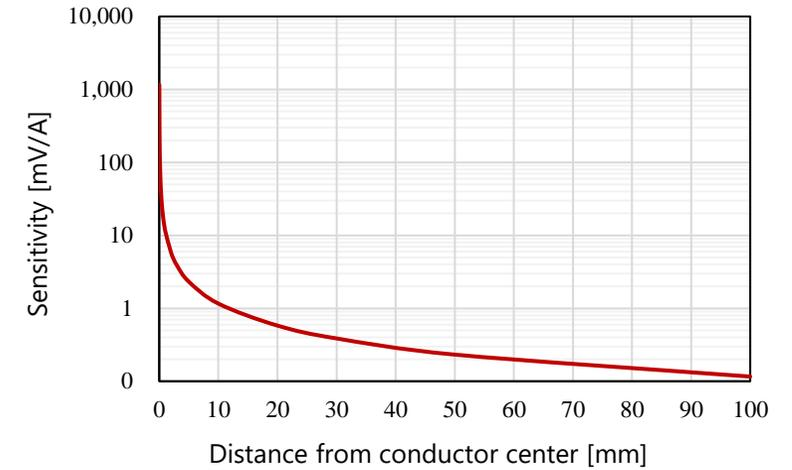

Fig2 Sensitivity graph
•As shown in ③, when the sensing part is at a distance from the conductor, the sensitivity becomes weaker according to the graph in Figure 2.
•Positive value is output when placed as in ① for the current flowing in the conductor.